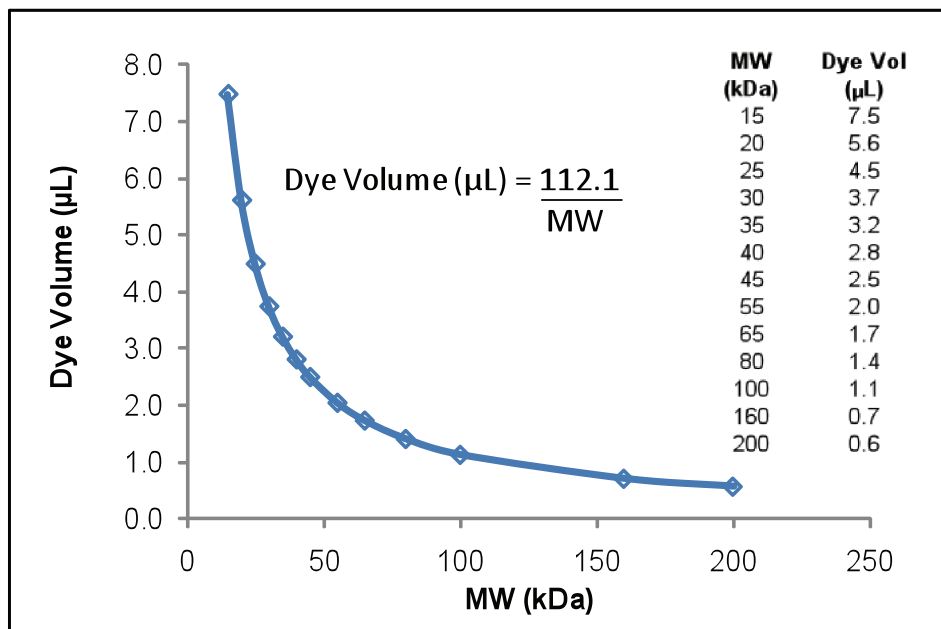

Figure 2. Dye Volume based on molecular weight.
- Use Figure 2 to determine the appropriate amount of dye to add based on the molecular weight of the protein.
- Using the dye amounts shown in Figure 2 typically results in a dye-to-protein (D/P) ratio of 1:1 to 3:1.